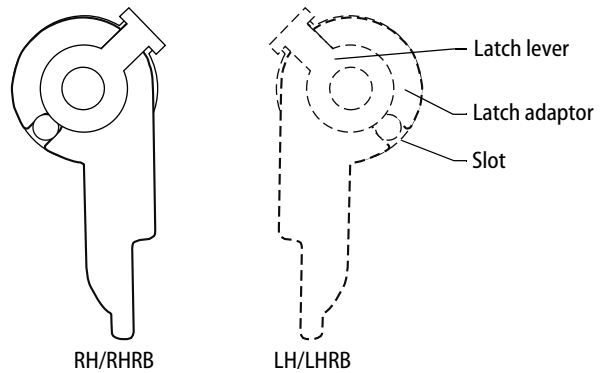

Figure 4
- 3 Turn the latch lever over and reengage the latch lever to the latch adaptor using the same slot. When switched the position should be a mirror image of the original. See Figure 4.